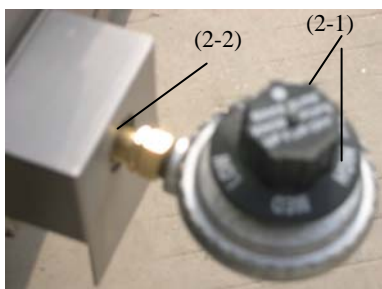

Fig. 2
2. Screw the regulator (2-1) into the open end of burner (2-2) as shown in fig. 2